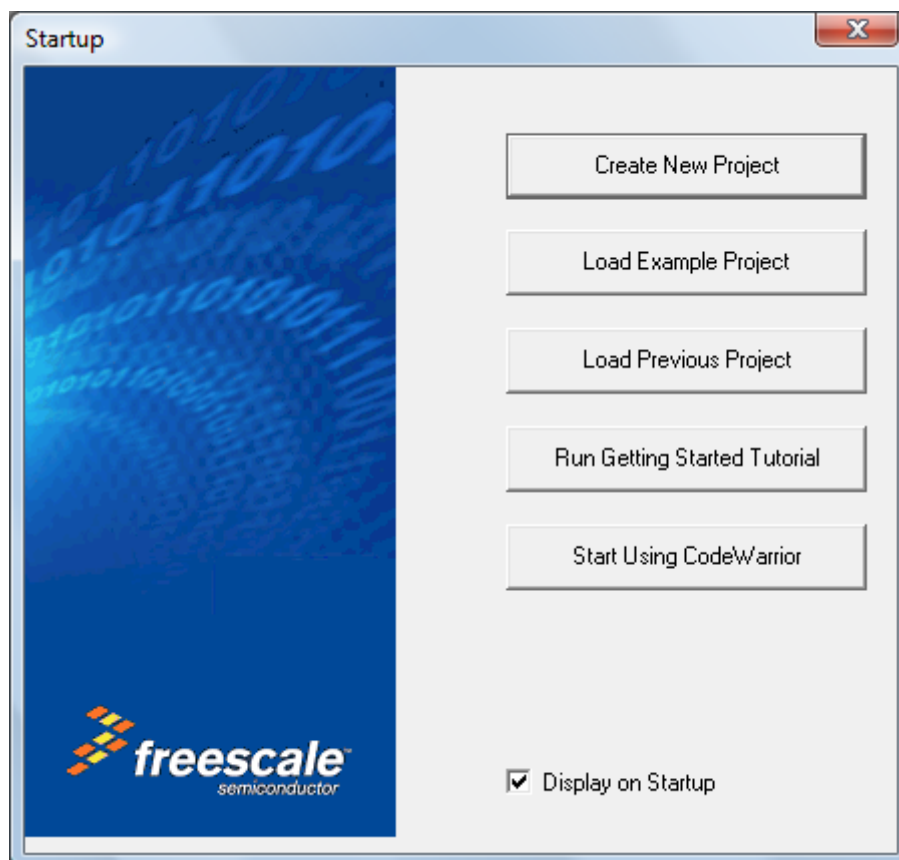

Figure 28: CodeWarrior startup dialog
1) When CodeWarrior is launched you should see the following dialog (Figure 28) which includes the option to create a new project. Alternatively you can use the `New Project...` option in CodeWarrior's `File` menu.